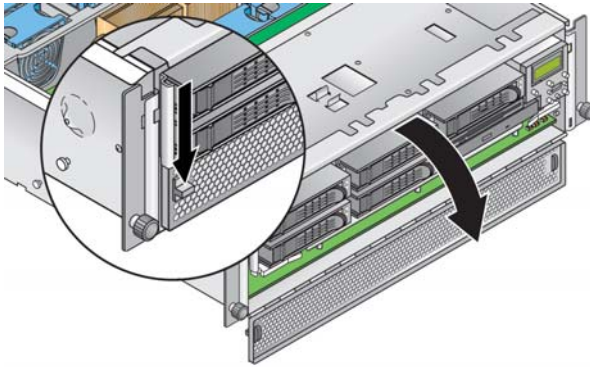

FIGURE 5-14 Opening the CPU Card Door
3. Open the CPU card door, which is located under the hard drive bays, to access the CPU card. Press down on the two buttons on the door and swing it downward so that it is open 180 degrees from the closed position (see FIGURE 5-14).